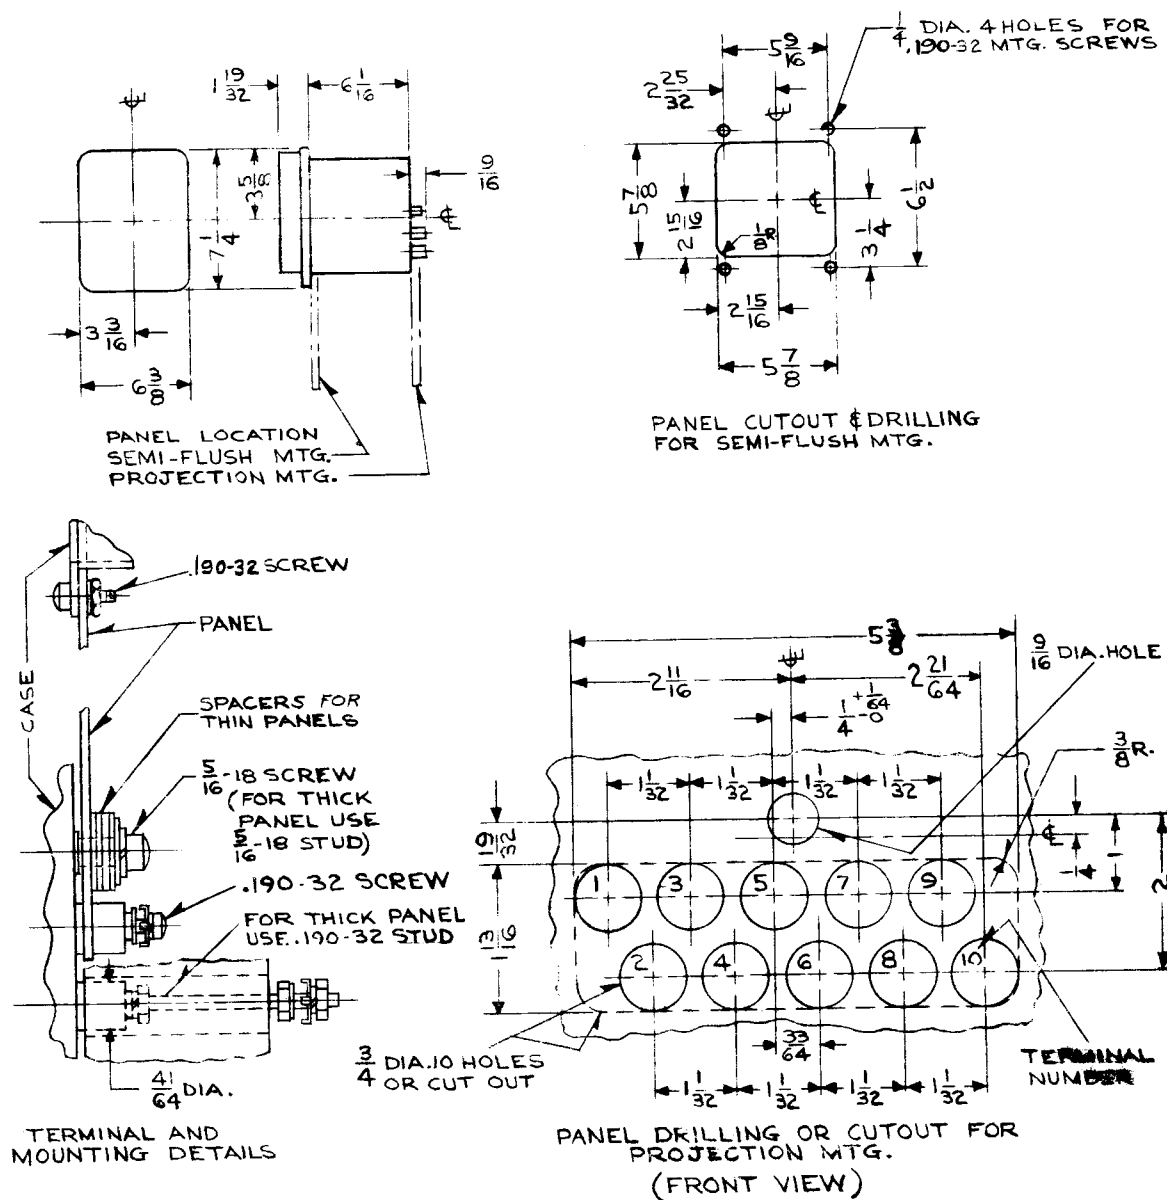

Fig. 4 Outline and Drilling Plan for the Type COD Relay in the Type FT 11 Case.
* For detailed FT case information refer to I.L. 41-076. See Fig. 4 for outline & drilling plan.